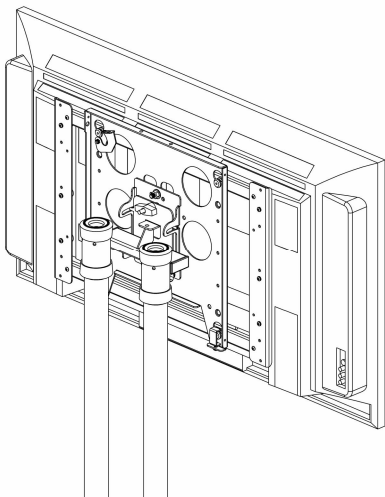

Figure 2
1. With the aid of another person, lift display up to the mount, aligning the mounting buttons on the display with the teardrop slots in the face plate. See Figure 2. (**NOTE:** Locking clamp shown installed on cart; other mounts similar.)